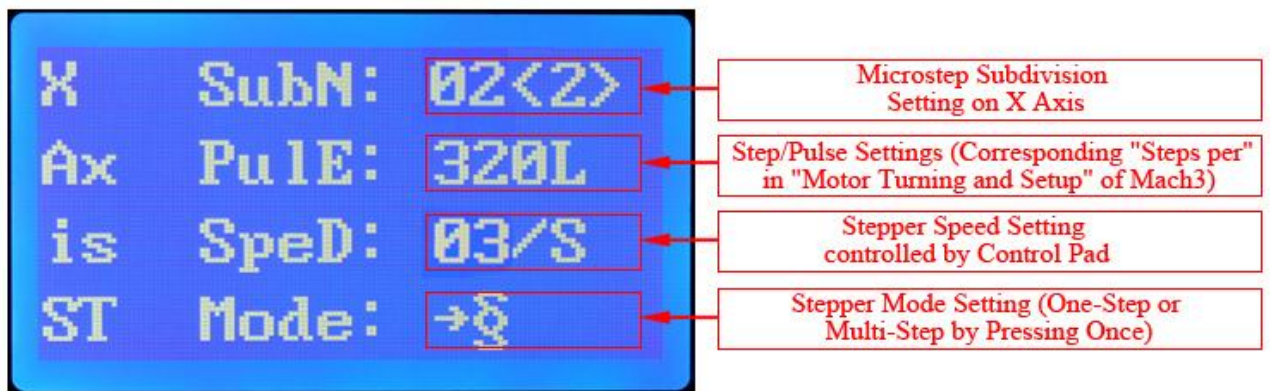

Figure 13: X Axis Running Parameters Setting
- After finishing “Main Function Setting”, please press the “ST” key on control pad again to skip to the “X Axis Running Parameters Setting” in “Figure 13”.